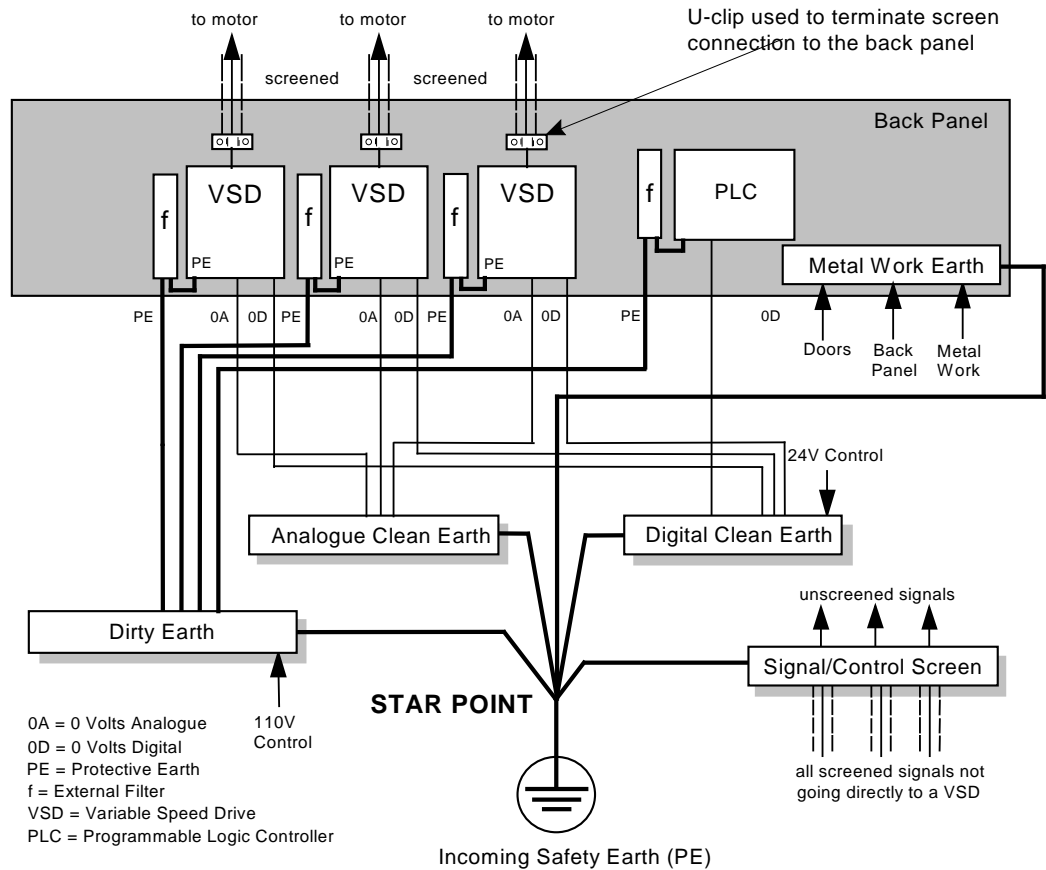

Figure 10-2 Star Point Earthing
- A single-star point earthing policy as shown in Figure 10-2 is required.
- The protective earth connection (PE) to the motor must be run inside the screened cable between the motor and VSD and be connected to the protective earth terminal in the gland box, or on the VSD.